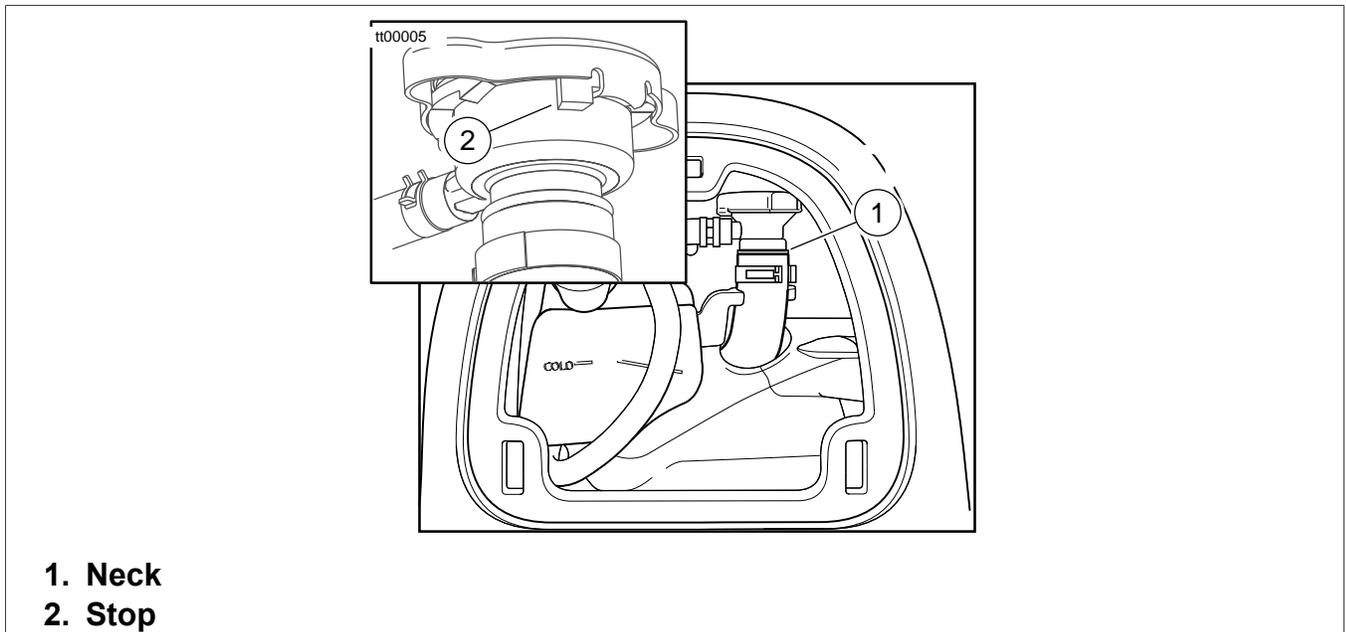

Figure 1. Coolant Filler Cap
Note that a loose pressure cap can easily be misdiagnosed. See Figure 1. You **MUST** visually confirm that the ears on the cap are against the stop (2) on the neck. If the cap is loose, it will allow the system to boil. Checking the cap is covered in the PDI manual.
3. See Figure 1. Verify that the pressure cap is fully tightened to the stop (2).